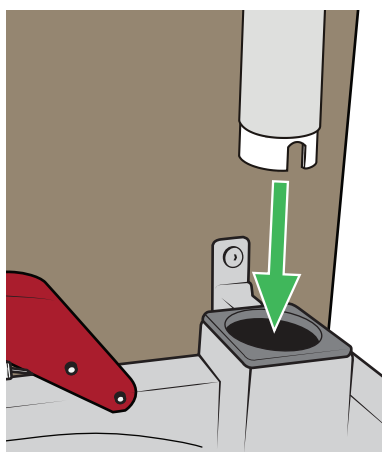

Figure 1
1. Insert the lifting pole into either socket at the head end of the bed, with the horizontal part of the pole above the centre of the bed. See Figure 1.